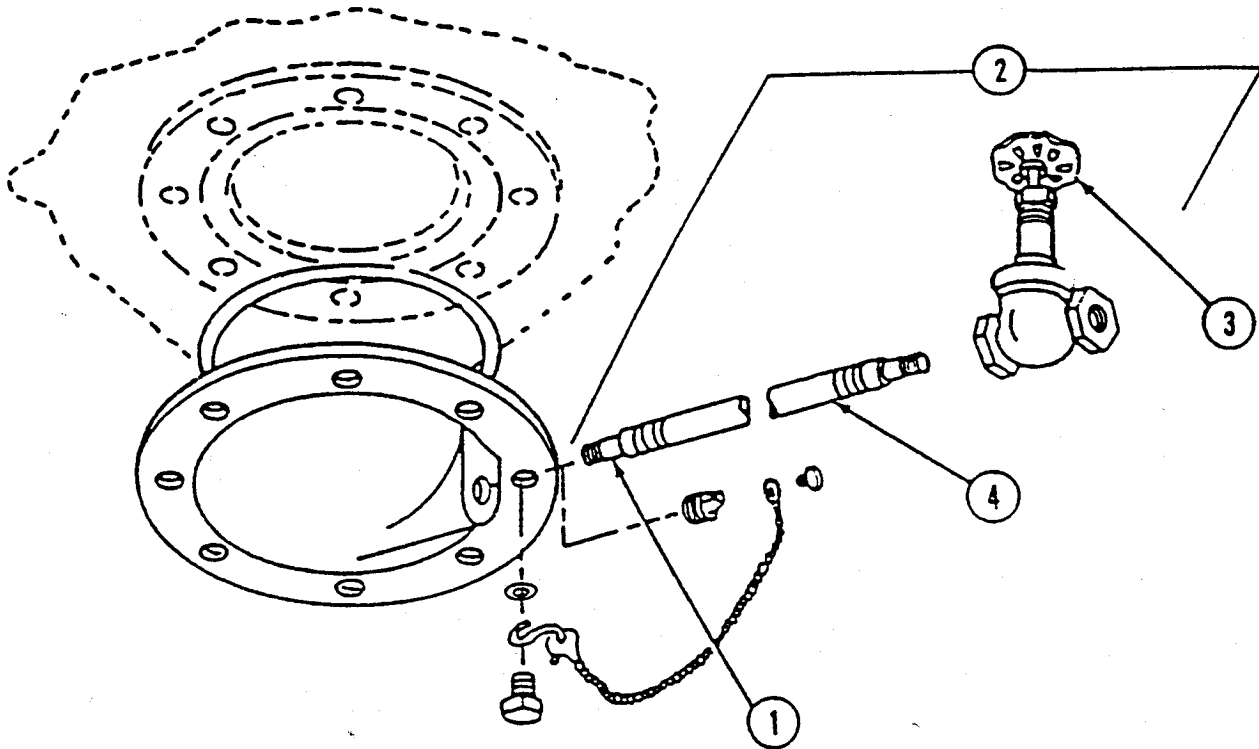

Figure 2-6 . Drain Fitting Assembly
- b. Apply pipe joint compound or teflon tape to threads (1) of drain hose fitting; install drain hose assembly (2). (See figure 2-6 .)
- c. Apply sealing compound or antiseize tape to threads. If not already assembled, install the drain gate or ball valve (3) on end of drain hose (4).